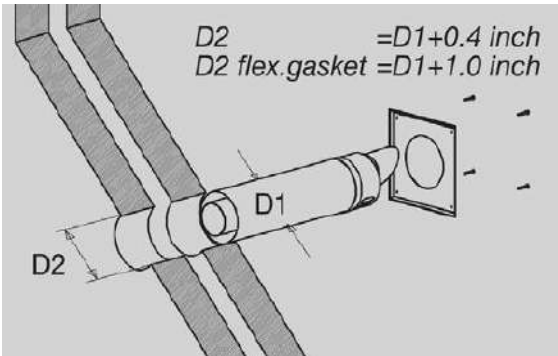

Figure 4.10 Flue terminal hole cutting
3. Cut a hole with a diameter 10 mm (0.4 inch) larger than the flue terminal. Horizontal flue terminals with flexible exterior gaskets can be installed inside out. In this case, the hole through the wall must have a diameter 25 mm (1 inch) more than the terminal. Be sure to protect the air inlet and flue outlet connections of the appliance from wood shavings, dust or dirt while cutting. See figure 4.10.